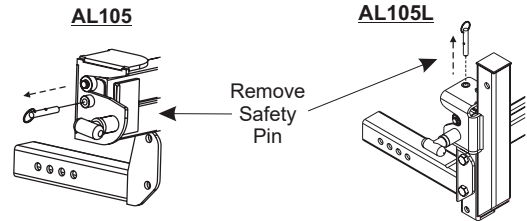

Figure 6-3
1. Remove Safety Pin [Figure 6-3]
NOTE: Two Swing-Away models are available, a standard **AL105** and the lightweight **AL105L**. They work basically the same way but the parts differ slightly as noted in [Figure 6-3].